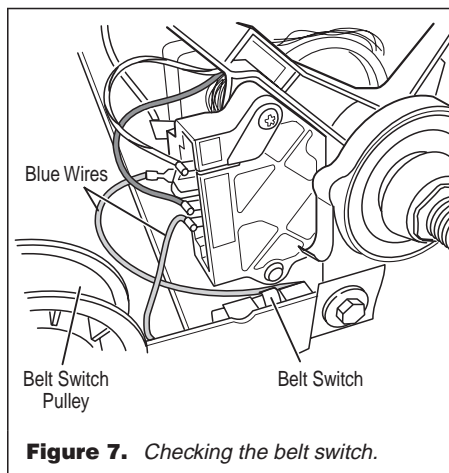

Figure 7. Checking the belt switch.
7. Check the belt switch by measuring resistance between the two blue wires, as shown in figure 7, while pushing up the belt switch pulley.